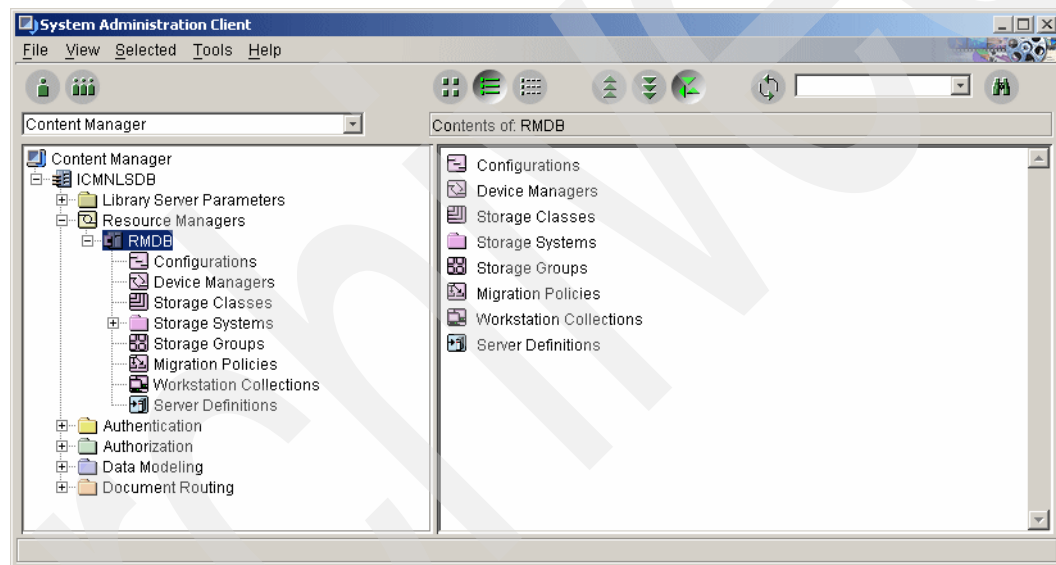
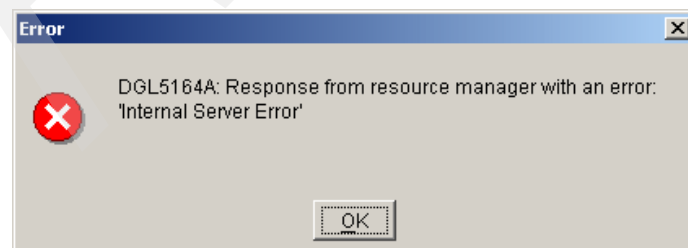

Figure 8-7 Content Manager System Administration Client
Figure 8-8 Problems connecting to the resource manager database (RMDb)
2. Log in with your user ID and password. A window similar to the one shown in Figure 8-7 opens.
3. Click **Resource Managers** and then click **RMDb**. This will expand the tree of the resource manager database (RMDb), as shown in Figure 8-7. If your resource manager is not running, or there are problems in the communication between the library server and the resource manager, the message shown in Figure 8-8 will be displayed instead of an enlarged tree. Start the resource manager or correct the problems and click **RMDb** again.